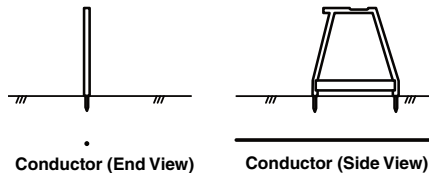

Figure 10 – Receiver Positioning
2. When fault locating, generally the receiver should be used over the conductor, with the front receiver spike towards the expected fault and the rear receiver spike towards the ground stake. The receiver spikes should evenly penetrate the earth to make good electrical contact. The current flowing in and out of the ground spikes supplies the signal to locate the insulation fault (see Figure 10).